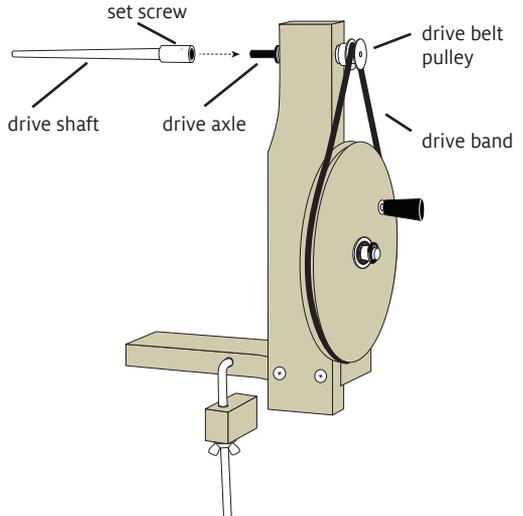

FIGURE 3: INSTALL DRIVE SHAFT (SINGLE-END WINDER ONLY)
2. Install the drive band around the shaft pulley and the drive wheel (Figure 3). Double-end winders are ready for use; for single-end, continue to the next section.
1. Place the drive shaft on the drive axle at the top of the upright. Line up the set screw in the long shaft with the flat side of the drive axle (Figure 3).